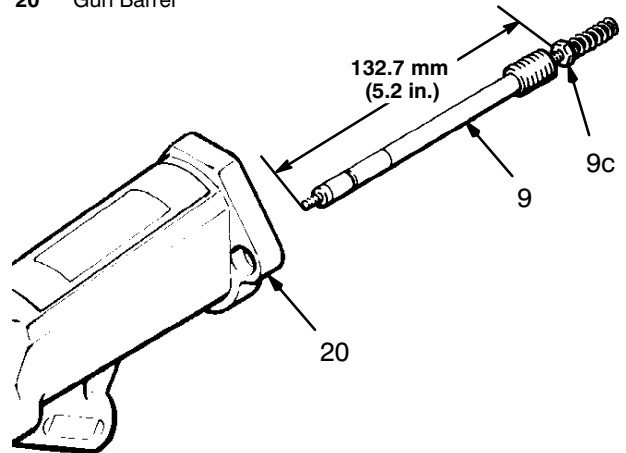
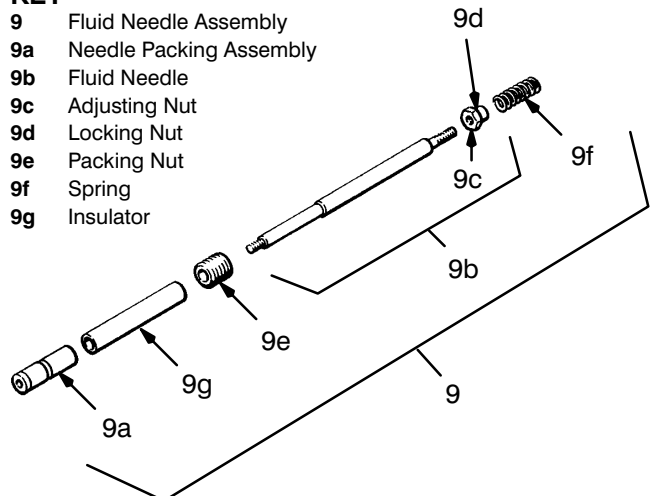

Fig 15
Fig 16
- Carefully remove the fluid needle assembly (9) from the rear part of the gun barrel (20). See Fig 15. If the packing assembly (9a) or insulator (9g) are still in the barrel, insert the packing removal rod (66d) into the front of the barrel to gently push them out. Refer to Fig 16.
NOTE: If the position of the adjusting nut (9c) is changed, install the adjusting nut to the approximate dimension shown in Fig 15. (Final adjustment will be made in step 15.) If the spring (9f) was removed, reinstall it over the nut (9d).